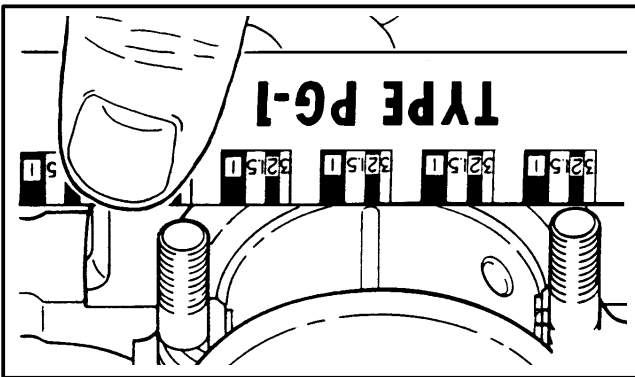

FIGURE 22. MEASURE THE PLASTIGAGE® ON A BEARING JOURNAL
- b. Remove the bearing cap. The Plastigage will be compressed and wider and will adhere to either the bearing or its journal. Use the scale on the envelope for the Plastigage to measure the width of the plastic at its widest point. The scale will indicate the clearance in millimetres or thousandths of an inch. See FIGURE 22.